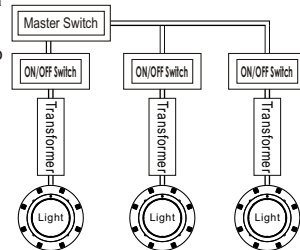

Figure 1
- When the light is connected to the transformer directly, the on/off switch controls the colour changes (a light with a transformer with an on/off switch is recommended; If you want all the lights to change colour at the same time, please install a master switch, Figure 1).